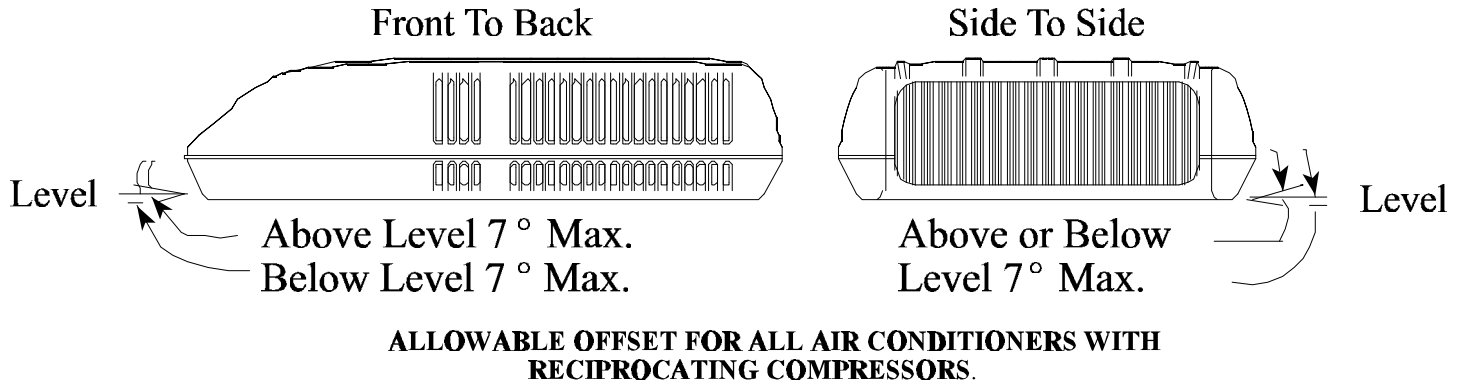

FIGURE 3
- D. The roof top air conditioner must be mounted as near level from front to rear and side to side as is possible when the vehicle is parked on a level plane. Figures 3 and 4 show maximum allowable degree deviations (mounting degrees from total surface flat plane).